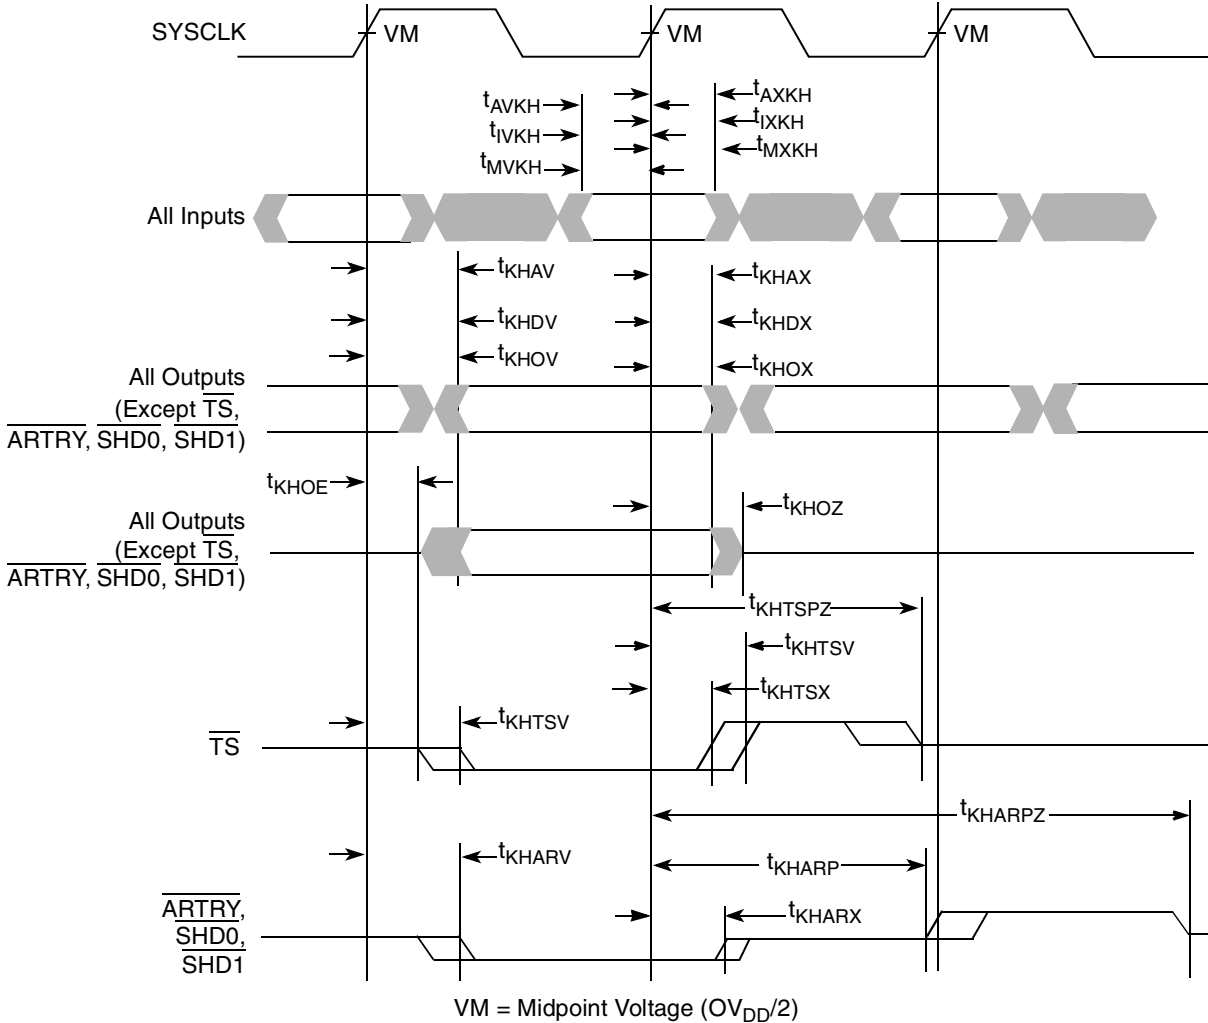

Figure 6. Input/Output Timing Diagram
- The symbology used for timing specifications herein follows the pattern of  $t_{(\text{signal})(\text{state})(\text{reference})(\text{state})}$  for inputs and  $t_{(\text{reference})(\text{state})(\text{signal})(\text{state})}$  for outputs. For example,  $t_{\text{VKH}}$  symbolizes the time input signals (I) reach the valid state (V) relative to the SYSCLK reference (K) going to the high (H) state or input setup time. And  $t_{\text{KHOV}}$  symbolizes the time from SYSCLK(K) going high (H) until outputs (O) are valid (V) or output valid time. Input hold time can be read as the time that the input signal (I) went invalid (X) with respect to the rising clock edge (KH) (note the position of the reference and its state for inputs) and output hold time can be read as the time from the rising edge (KH) until the output went invalid (OX).
- According to the bus protocol,  $\overline{\text{TS}}$  is driven only by the currently active bus master. It is asserted low then precharged high before returning to high impedance as shown in Figure 6. The nominal precharge width for  $\overline{\text{TS}}$  is  $0.5 \times t_{\text{SYSCLK}}$ , that is, less than the minimum  $t_{\text{SYSCLK}}$  period, to ensure that another master asserting  $\overline{\text{TS}}$  on the following clock will not contend with the precharge. Output valid and output hold timing is tested for the signal asserted. Output valid time is tested for precharge. The high-impedance behavior is guaranteed by design.
- According to the bus protocol,  $\overline{\text{ARTRY}}$  can be driven by multiple bus masters through the clock period immediately following  $\overline{\text{AACK}}$ . Bus contention is not an issue because any master asserting  $\overline{\text{ARTRY}}$  will be driving it low. Any master asserting it low in the first clock following  $\overline{\text{AACK}}$  will then go to high impedance for one clock before precharging it high during the second cycle after the assertion of  $\overline{\text{AACK}}$ . The nominal precharge width for  $\overline{\text{ARTRY}}$  is  $1.0 t_{\text{SYSCLK}}$ ; that is, it should be high impedance as shown in Figure 6 before the first opportunity for another master to assert  $\overline{\text{ARTRY}}$ . Output valid and output hold timing is tested for the signal asserted. The high-impedance behavior is guaranteed by design.
Figure 6 provides the input/output timing diagram for the MPC7455.